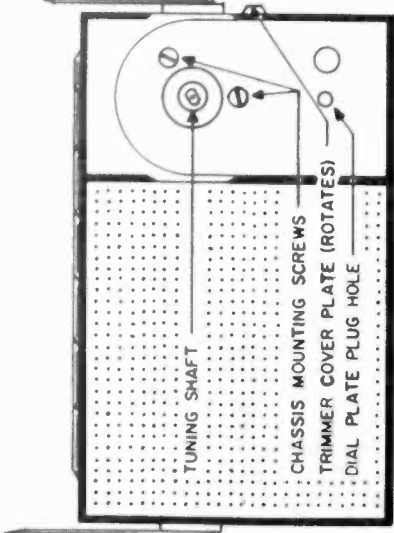

FIG. 1 - FRONT VIEW - DIAL PLATE REMOVED
3. Lift out the dial calibration plate, exposing two counter-sunk slotted head screws adjacent to the tuning shaft. Remove these two screws (see Fig. 1).
7. Remove speaker from chassis by unscrewing two slotted head screws in back of the speaker magnet (See Fig. 1). This eliminates the speaker ground, so a clip lead should be connected from speaker frame to the metal battery compartment.
**CAUTION** DO NOT ATTEMPT TO PRY OFF THE TRIMMER COVER PLATE (SEE FIG. 1). THIS PLATE ROTATES TO EXPOSE TWO ACCESS HOLES IN THE END OF THE CASE. FRONT HOLE TO OSCILLATOR TRIMMER CIA, REAR HOLE TO RF TRIMMER CIA.